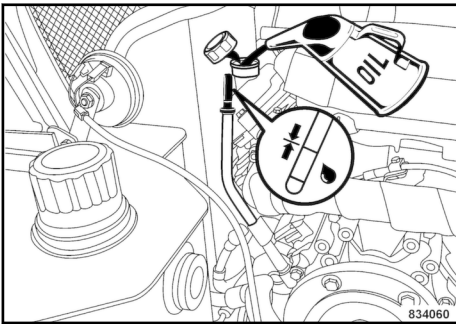

Fig. 162
1. Pull the dipstick  Fig. 162 out, wipe it off with a lint-free, clean cloth and reinsert it until it bottoms.